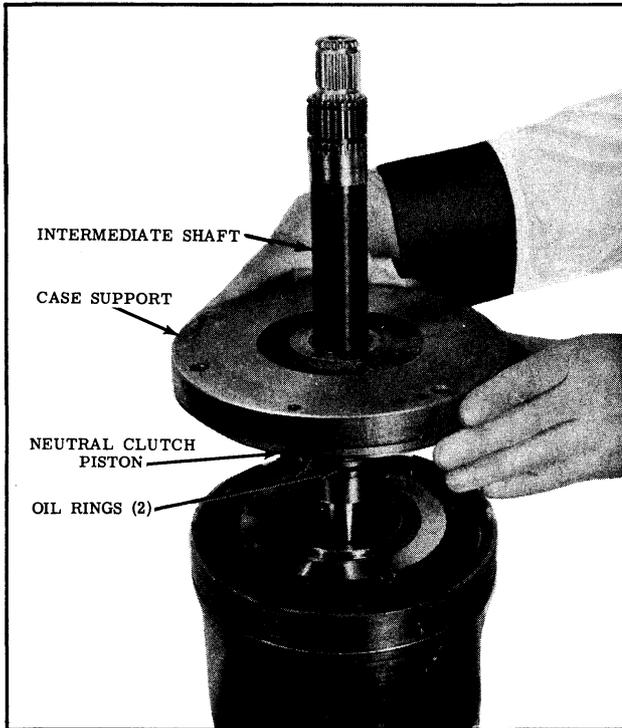

Fig. 3-56 Removing Case Support
3. Lift the case support with neutral clutch piston from the intermediate shaft. (See Fig. 3-56)